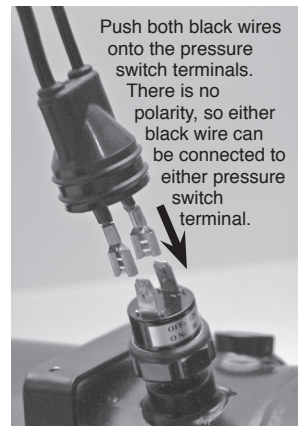

Fig. 8
IMPORTANT: It is recommended that both black wires be pushed forward so that the terminals are extending out of the rubber boot exposing the 1/4" female terminals (Fig. 8).
12. Select one of the black wires with the 1/4" female terminal, connect the terminal to the pressure switch. Repeat the procedure for the other black wire. **NOTE:** There is no polarity, so either black wire can be connected to either pressure switch terminal (Fig. 8).